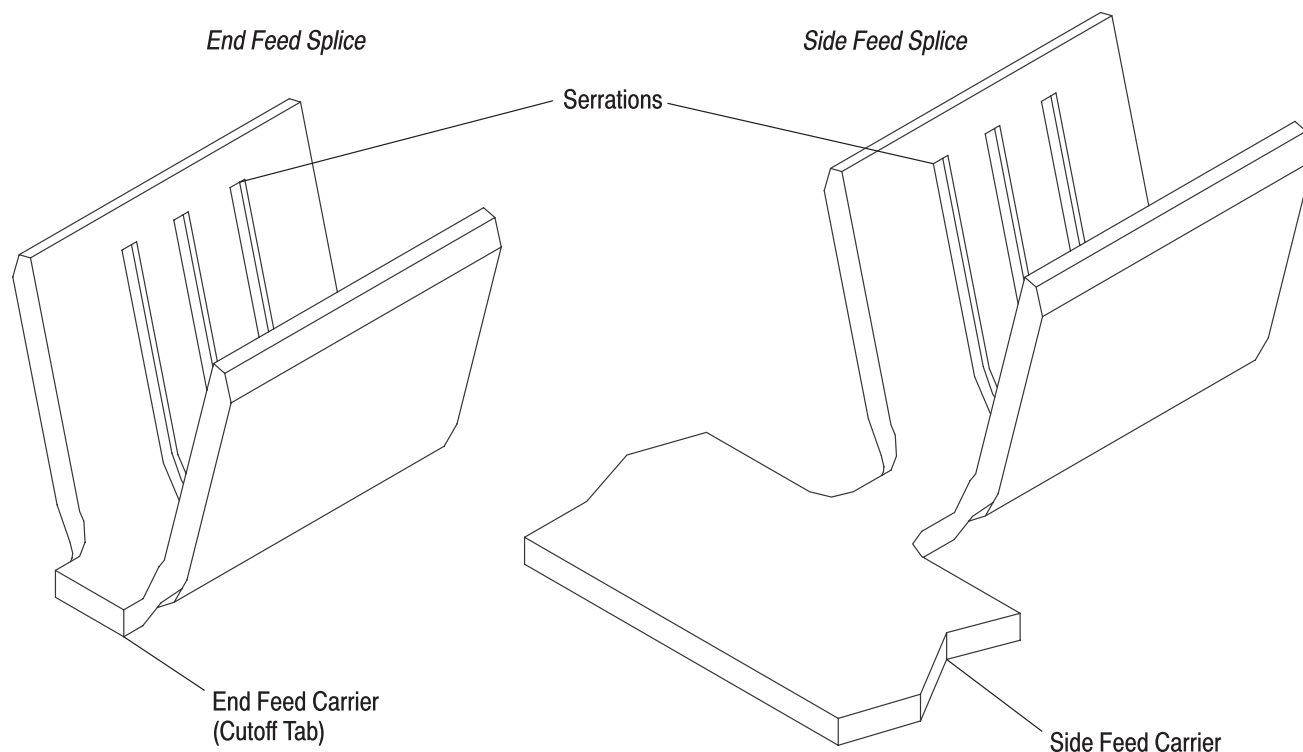

Figure 1
When corresponding with Tyco Electronics Personnel, use the terminology provided on this specification to help facilitate your inquiry for information. Basic terms and features of connectors are provided in Figure 1.
- Added new art to Figures 1 and 5